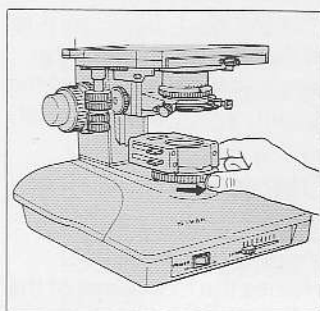

Fig.9-1
- (1) Close the field diaphragm to its smallest size by manipulating the field diaphragm control ring. Rotate the condenser focus knob to move the condenser vertically so that a sharp image of the field diaphragm is formed on the specimen surface (Fig. 9-1, 2 and 3).